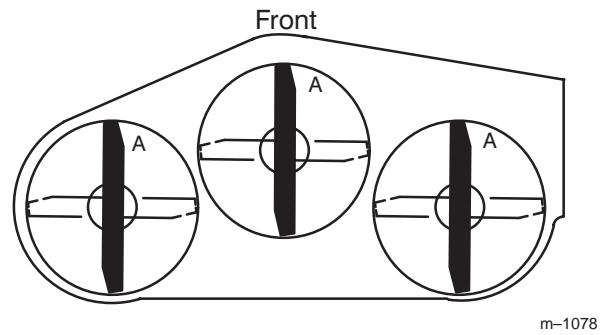
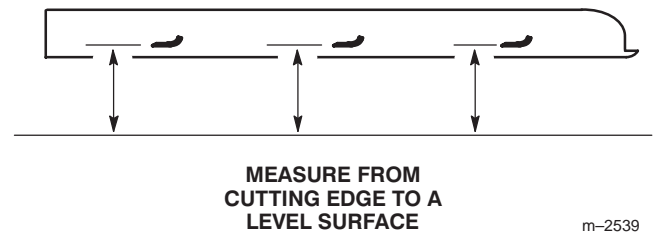

Figure 38
Figure 39
1. Rotate the blades until the ends face forward and backward (Fig. 38). Measure from a level surface to the cutting edge, position “A”, of the blades (Fig. 39). Note this dimension.